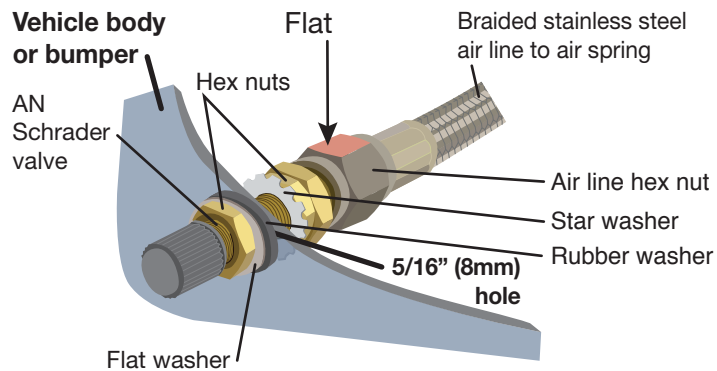

fig. E.6
2. Tighten the air line hex nut finger tight, then use 2 wrenches to turn 1 additional flat (1/6 of one full turn). **Do not overtighten** (Figs. E.6 or E.7). The easiest way to tighten the fitting is off the vehicle. Install the Schrader valve in the chosen location.